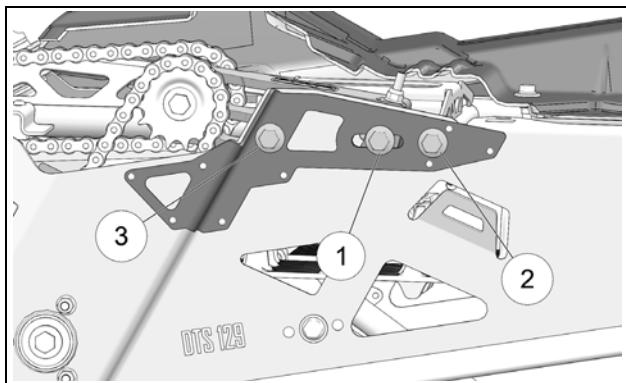

Figure 12
- Re-tighten in sequence chain tensioner mounting bolts (1), (2) and (3) to 125 N-m [92 lb-ft] of torque. See Figure 12.